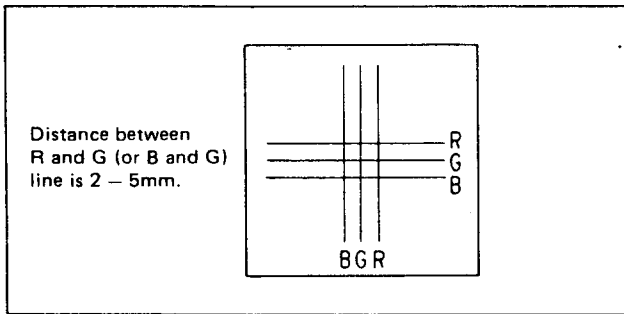

Fig. 2-11-1
- 2) Adjust **V-STAT** and **H-STAT** VRs on the control panel to make the three (red, green, and blue) lines parallel. (see Fig. 2-11-1)